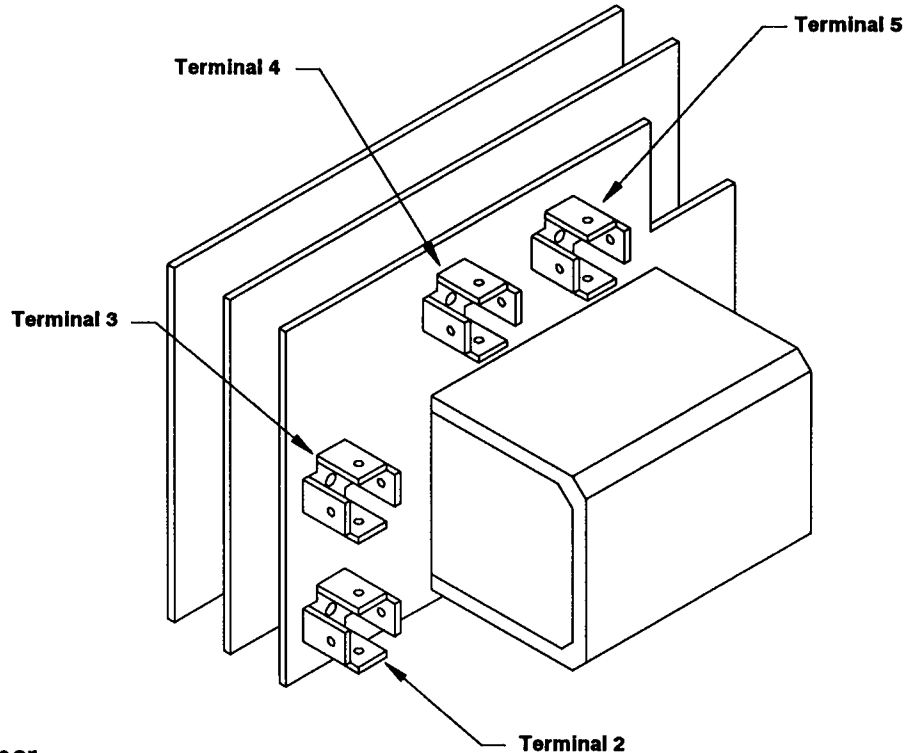

Figure 23 - Timer
- 1** Measure AC input voltage on timer terminals 4 and 5 (see Figure 23).
- 3** Measure AC output voltage at timer AC output terminals 2 and 3 ((see Figure 23).